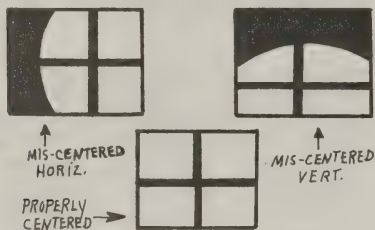

Fig. 4.
14. Adjust the centering controls (both vert and horiz) until properly centered. See fig. 4.